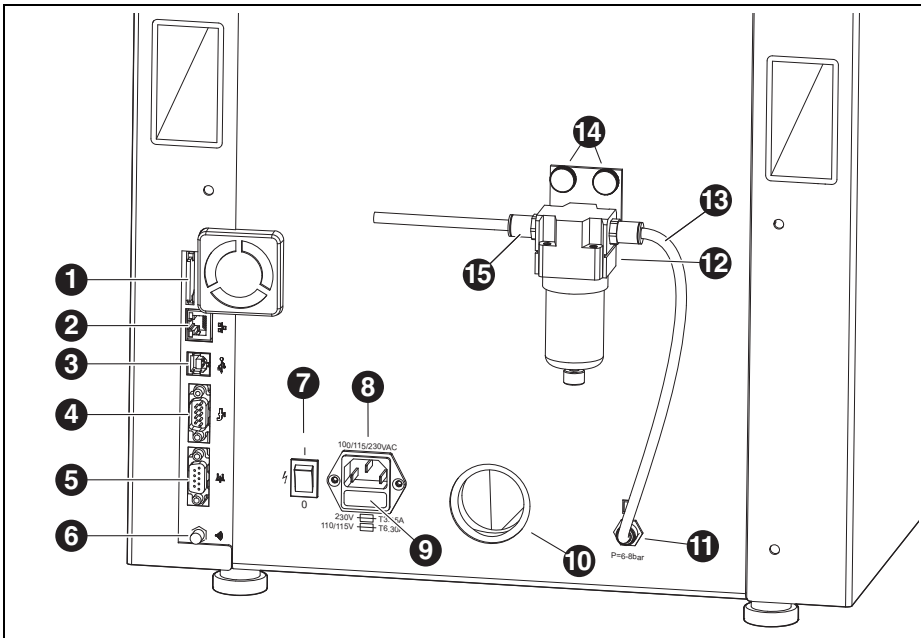

Fig. 2 Machine overview, rear
- ▷ Pull out the fuse compartment ([9] in fig. 2 on page 27) below the mains plug.
- ▷ Insert the extraction hose of the extraction system being used to the extraction-hose connection ([10] in fig. 2 on page 27) on the rear side of the milling machine.